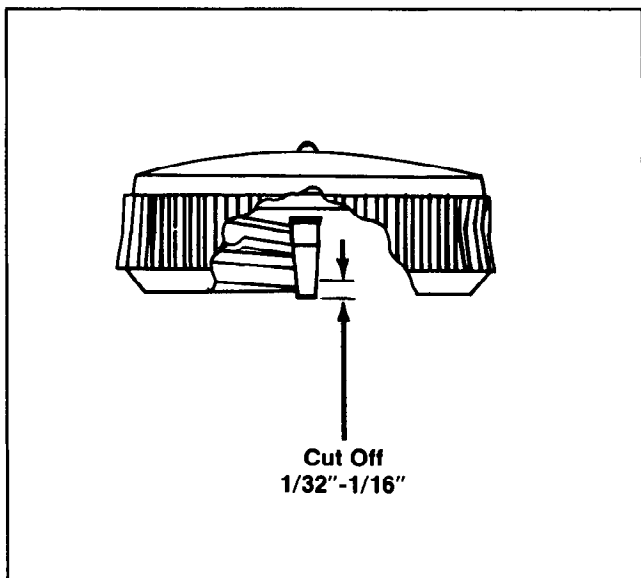

Figure 6-1. Fuel Tank Cap.
3. Check for fuel flow from tank to fuel pump. A. Remove fuel line from inlet fitting at fuel pump. B. Hold line below bottom of tank. Open shutoff valve and observe flow.	3. If fuel does flow from line, check for faulty fuel pump. (Test 4). If fuel does not flow from line, check for clogged fuel tank vent, shutoff valve screen, and fuel lines. If the fuel tank cap vent does not allow air to escape from the tank, modify the vent for proper operation by cutting 1/32" to 1/16" off the bottom. Refer to Figure 6-1.